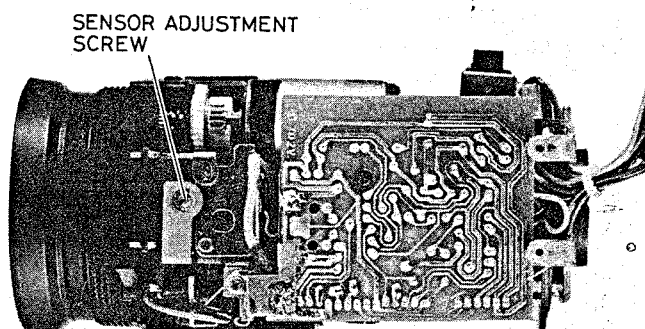

Fig. 4-54 Sensor Horizontal Position Adjustment
4. Sensor Position Adjustment (Fig. 4-54)